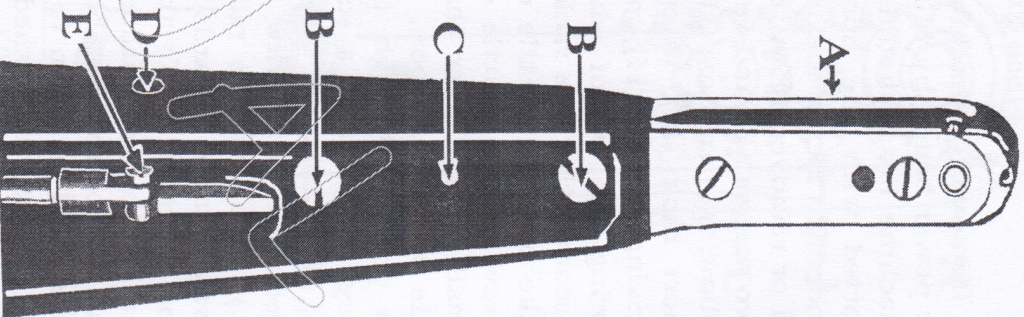

Fig. 19.
Remove the machine head from the treadle stand or power bench by taking out the four screws. The machine head should now be tipped up and supported with the horn in a vertical position, the underside facing the adjuster. Parts can be examined or removed from the rack box by taking out the two screws (F) and removing the cover plate. The following parts are then exposed : long rack (J), short rack (K), intermediate pinion (L), shuttle driving pinion (H), needle plate locating pin and spring (M), all of which can be removed without disconnecting the rack box from the machine. To take out the shuttle carrier, remove the small set screw in the shuttle carrier pinion by inserting a small screw driver through the groove (G) at the side of the rack box. The shuttle carrier can then be pressed through the pinion. To remove the long rack, insert a screw driver through the hole (D, Fig. 19) and take out the screw. Before proceeding to withdraw the rack, remove the pinion (L), then grip the rack and draw it in a straight-away manner towards the pulley end of the machine. The short rack (K) and shuttle-driving pinion (H) can be removed without difficulty. When replacing any one or re-assembling the whole of these parts, care must be taken to see that the gears and racks are correctly enmeshed, as shown in the illustration (Fig. 18).
(See Fig. 19)